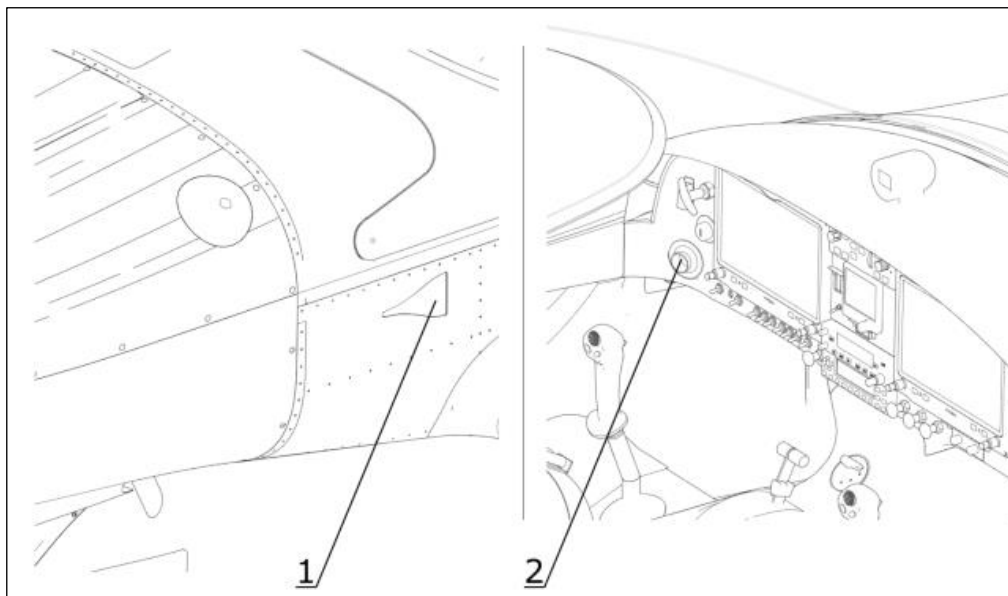

Fig. 1 *Venting System*
Cockpit ventilation is ensured by two eyeball air vents located in the cockpit on side panels of the instrument panel (see 2, Fig. 1). Air inlets - Naca scoops (1) are located on both fuselage sides in front of the canopy. There is a composite part connected to the Naca scoop from inside the cockpit and a flexible hose is used to connect the air vent with the composite part.